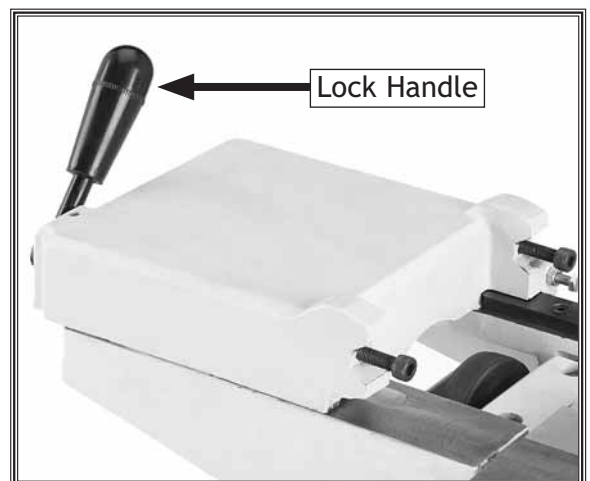

Figure 17. Fence carriage mounted on the back of the jointer.
20. Use the provided two M10-1.5 x 30 cap screws and two 10mm flat washers to attach the fence carriage to the back of the jointer, as shown in **Figure 17**.